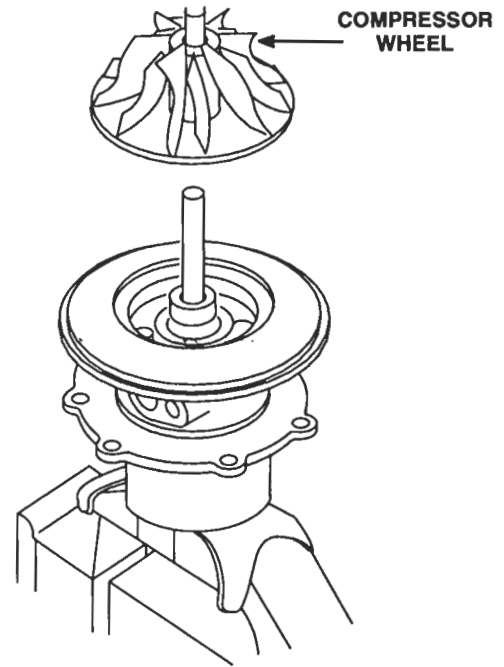

Figure 33. Installing Compressor Wheel on Shaft
- b. After heating the compressor wheel, remove the wheel and start it straight on the shaft (Figure 33.) Push the wheel down against the thrust spacer.